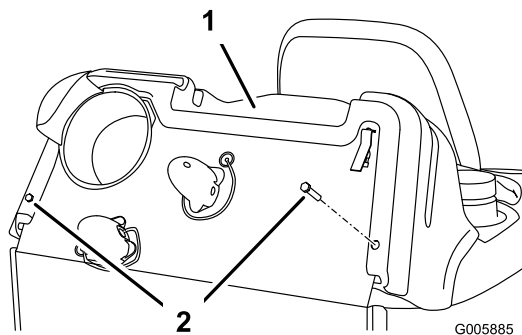

Figure 24
5. Remove the fasteners retaining the engine hood to the machine frame (Figure 24). Retain all parts.